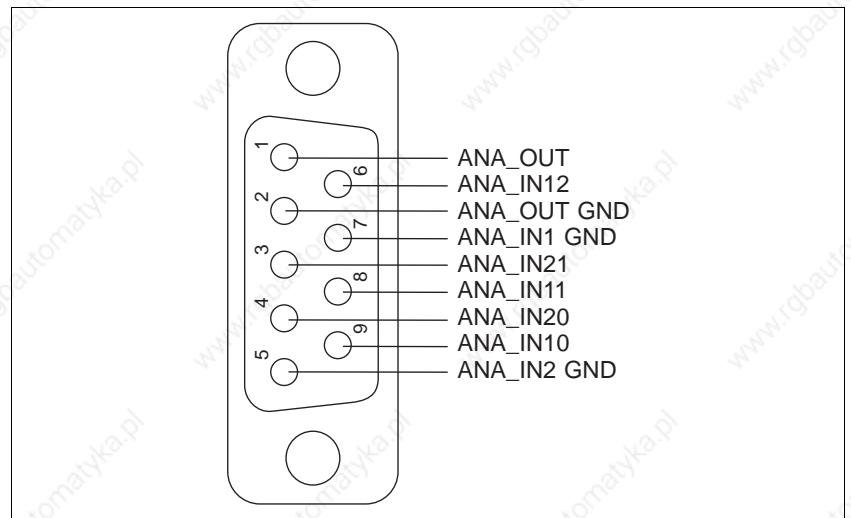

Fig. 2-17 Interface connection - device end
1. Solder the litz wires to the connector as illustrated in fig. 2-17.